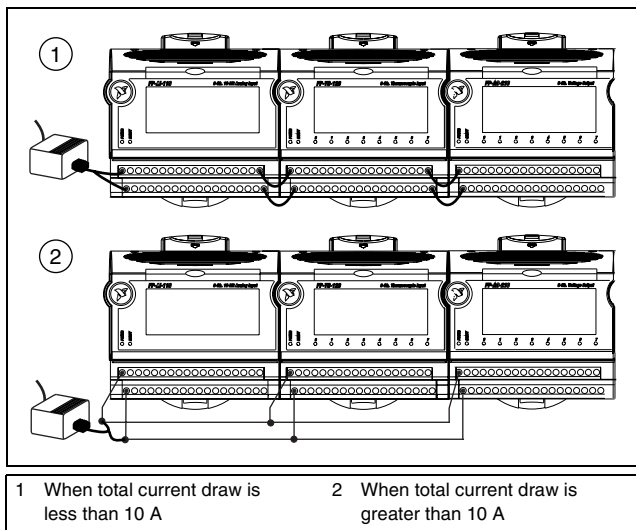

Figure 8. Connecting Power for Current Draws Below and Above 10 A
- The total current flowing through the V and C terminals must be limited to 10 A. If you have a single external supply for the field devices of more than one module, wire the supply to the V and C terminals as shown in Figure 8.